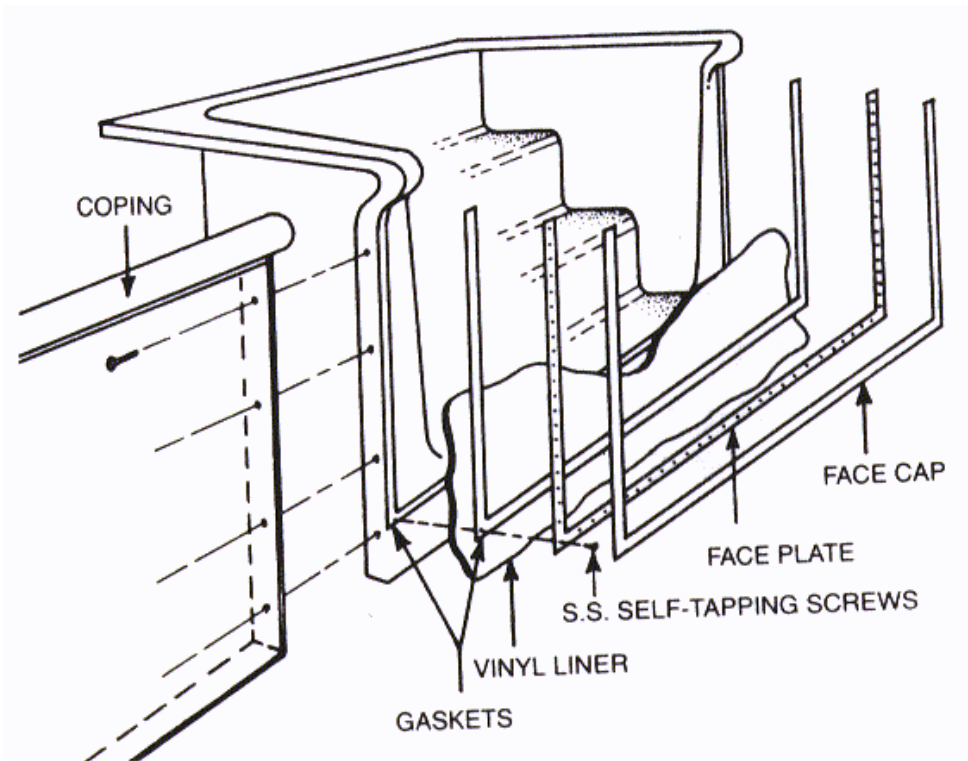

Figure 24 - Step Faceplate Installation
13. When the water is 6" deep in the shallow end, remove the vacuum(s) and replace the liner bead in the liner track. If steps are used, install the step gaskets and faceplate now (see Figure 24).
15. DO NOT REMOVE THE VACUUM(S) WITH LESS THAN 6" OF WATER IN THE SHALLOW END AND DO NOT ALLOW THE VACUUM(S) TO RUN WITH MORE THAN 12" OF WATER IN THE SHALLOW END. IF THE VACUUM(S) ARE SHUT OFF FOR ANY REASON BEFORE THE WATER IS 6" DEEP IN THE SHALLOW END, THE WATER MUST ALSO BE SHUT OFF UNTIL THE VACUUM IS RESTORED.